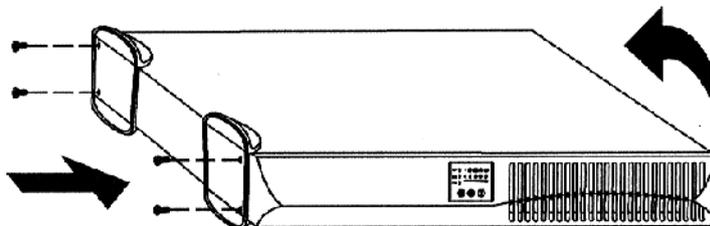

Figure 6. Installing the UPS Stands
2. Slide and position the UPS stands over the end of the unit so that the weight of the UPS is evenly distributed (see Figure 6). Secure the stands with the screws provided in the accessory kit.